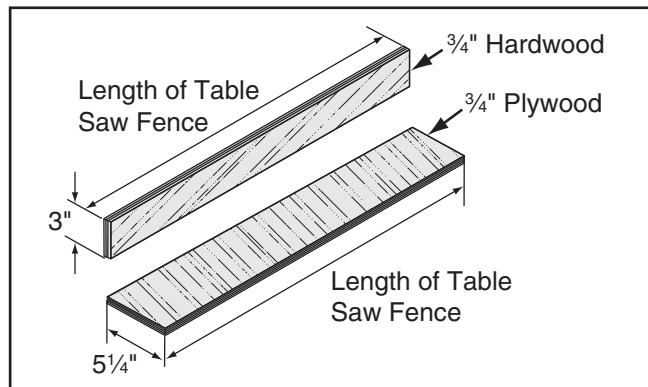

Figure 88. Auxiliary fence dimensions.
1. Cut a piece of $\frac{3}{4}$ " thick plywood 5 $\frac{1}{4}$ " wide and as long as your table saw fence; cut a piece of $\frac{3}{4}$ " thick hardwood 3" wide and as long as your table saw fence, as shown in **Figure 88**.